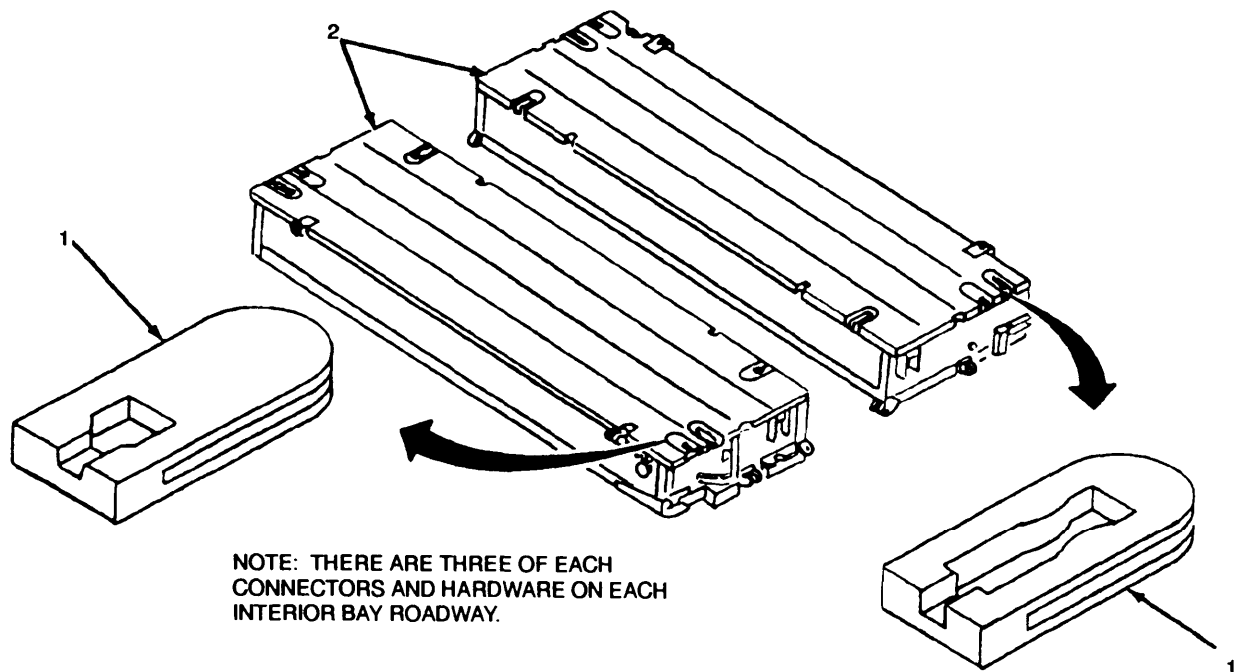

Figure 2-9. Interior Bay Receptacles, Replace.
a. *Replace.* (figure 2-9)
- (1) Cutout receptacles (1) from roadway ponton (2) in accordance with TM 9-237.
- (2) Install receptacles (1) by welding in accordance with TM 9-237.